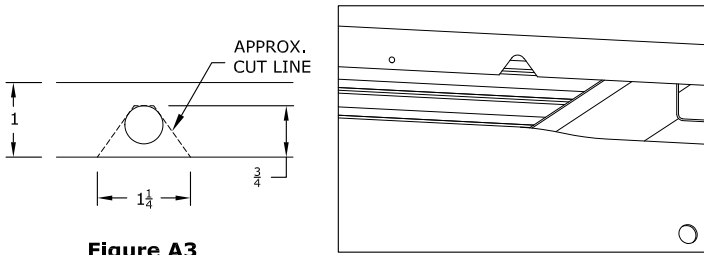

Figure A3
8. **Modify bed flange.** Cut a notch in the bed flange just above the frame in the passenger side rear wheel. Locate the 7/16" hole in this flange above the axle and enlarge the hole by removing the metal below the hole so that a notch is created, See figure A3 & A4. This will allow the rear cross member to be installed.